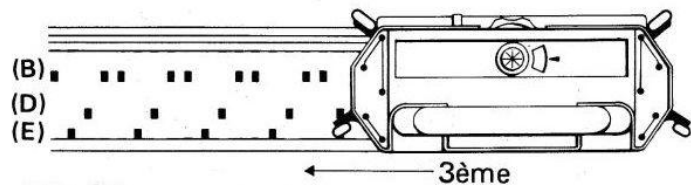

Fig. 83
Push back into position (D) from (E) every 4th holding needle, and push forward from (B) to (E) every 4th needle starting with extreme end needle on the right. (Fig.83)